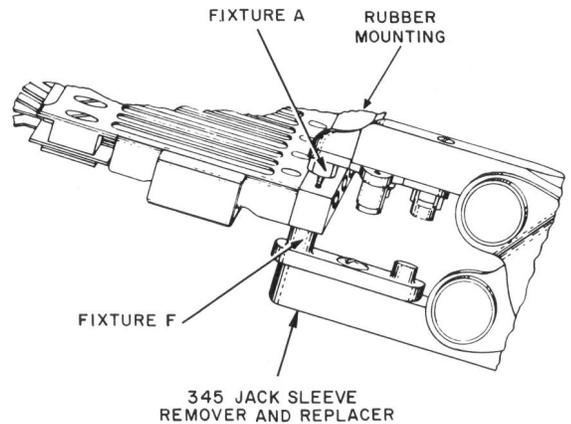

Fig. 6—Method of Removing Sleeve Pin on 92-, 229-, and 292-Type Jacks
3.07 To remove the sleeve of a jack equipped with a pin for holding the sleeve in position in the rubber mounting, punch out the pin, using fixture A of the 345 jack sleeve remover and replacer, with fixture F applied under the rubber mounting, as shown in Fig. 6. Remove the pin with the P long-nose pliers.